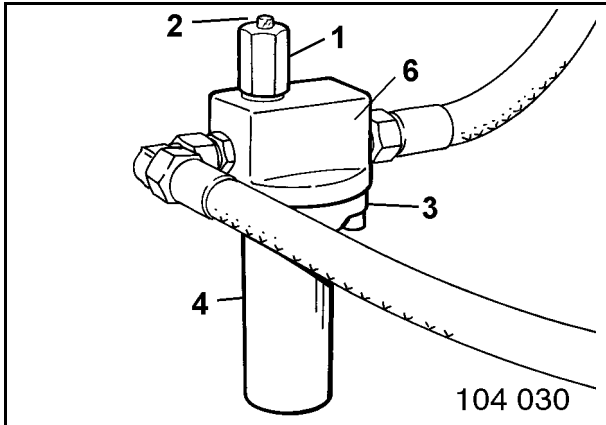
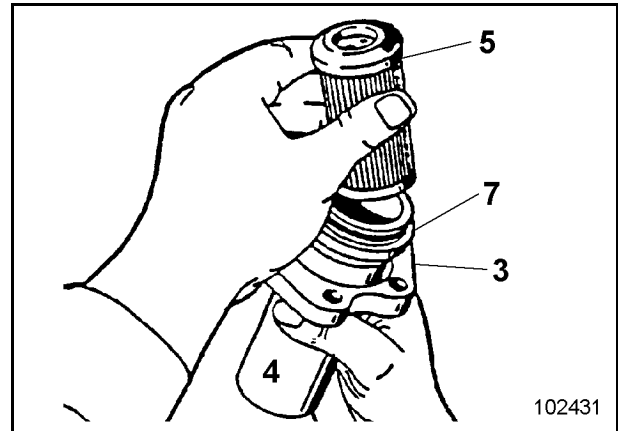

Fig. 3-110:
Fig. 3-111:
Check filter tell-tales (1, Fig. 3-110:) regularly - at operating temperature - for indication of contamination.
- Remove flange (3, Fig. 3-111:).
- Pour oil out of filter pot (4) and remove filter element (5).
- Clean filter head (6, Fig. 3-110:) and filter pot (4). Check o-ring (7, Fig. 3-111:) for damage; change if necessary.